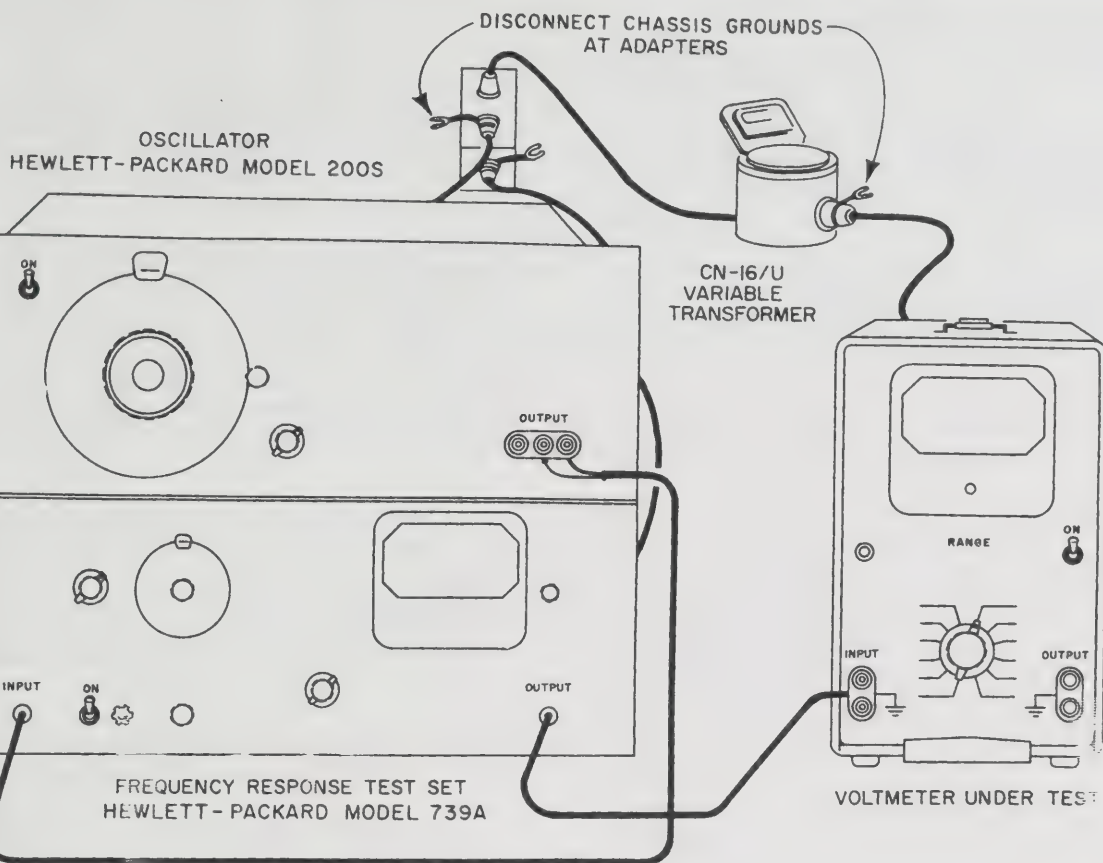

Figure 5-7. Test Setup for Frequency Response Check and Adjustment
i. Connect the voltmeter as shown in figure 5-7 and set line voltage to 115. (This setup measures calibration accuracy at low and high frequencies.)
f. Connect the frequency response test set, the oscillator, and the voltmeter under test as shown in figure 5-7. Observe grounding precautions described in step c.